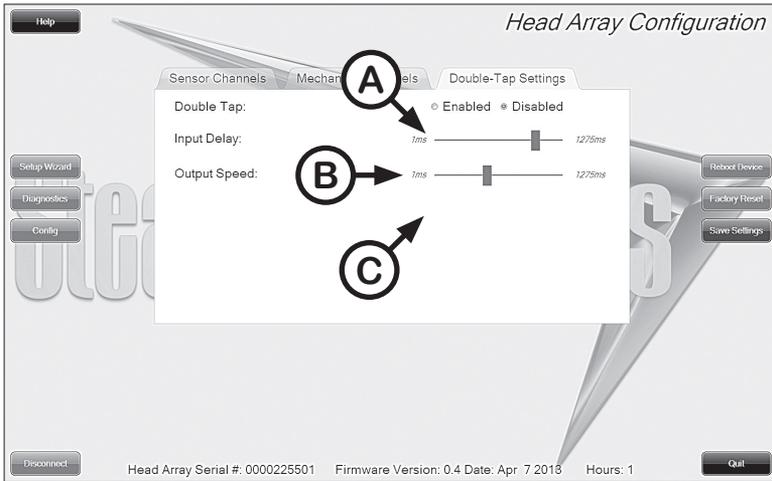

Fig.3.4.4
- C. *Double-Tap Settings* Tab** - Navigates to the Double-Tap Settings menu (see Fig.3.4.4 on p18)